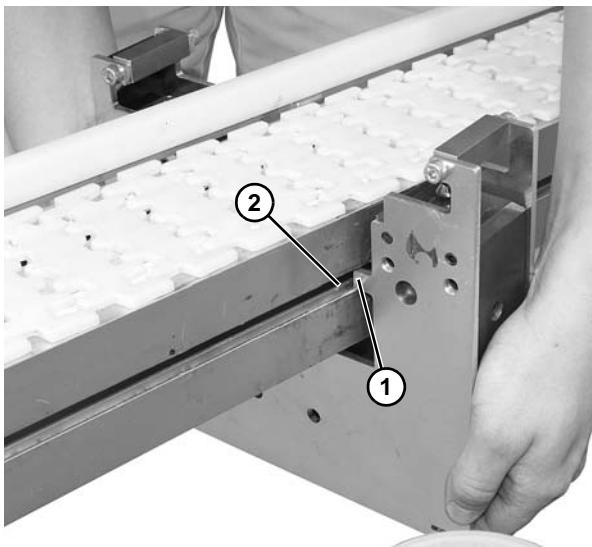

Figure 9
2. Rotate lift and locate station so that the tabs (**Figure 9, item 1**) on both sides can be inserted into the channel (**Figure 9, item 2**) of the conveyor.